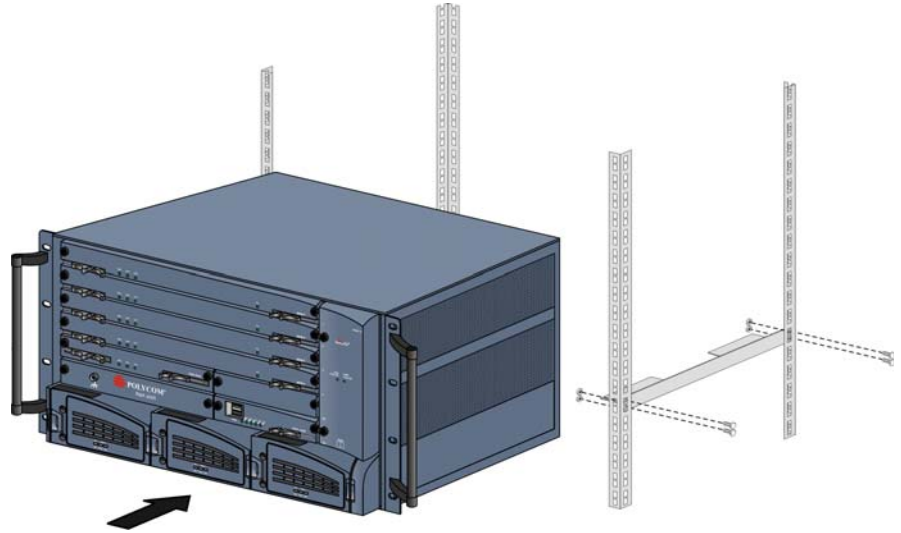

Figure 1-2 *Installing chassis runners and RMX in a rack*
- 1 When the RMX is to be rack mounted chassis runners must be installed on the rack as shown in Figure 1-2. Two chassis runners are included in the *Rack Installation Accessories* kit and are attached facing inward from the outside of the 19"/23" rack mount.